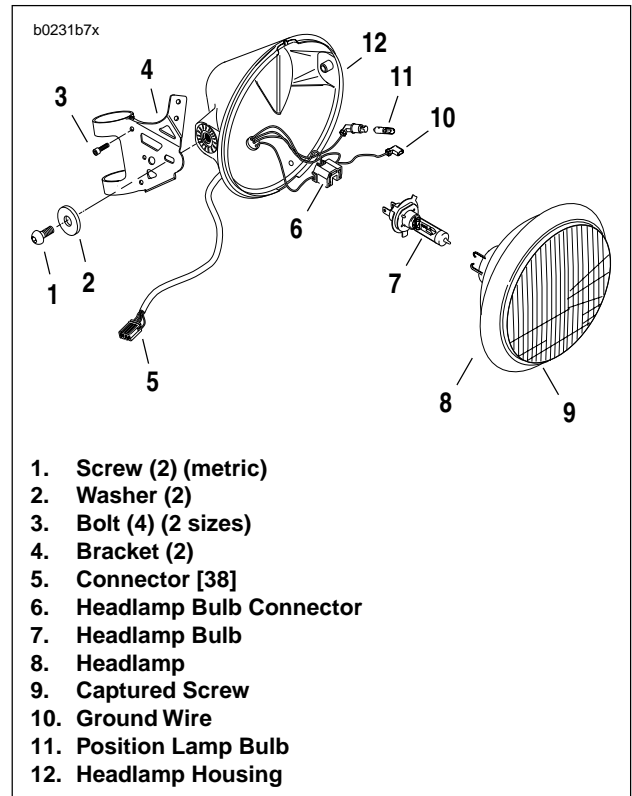
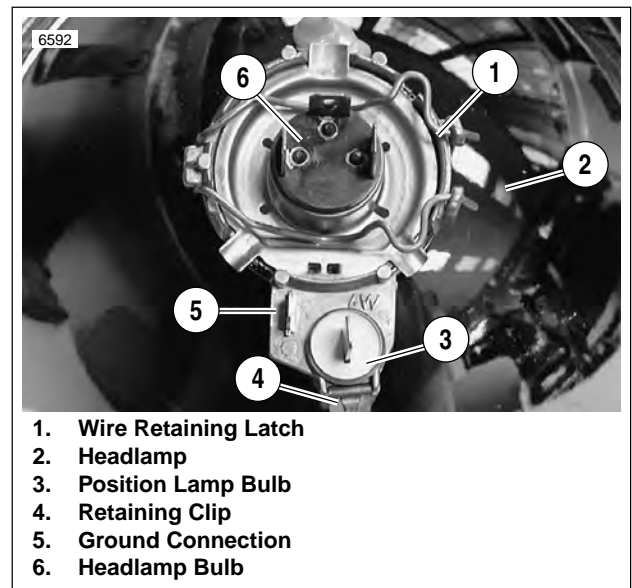

Figure 7-37. Headlamp Assembly
Figure 7-38. Headlamp Bulbs
1. See Figure 7-37. Loosen screw (9) at bottom of headlamp.
2. Pry headlamp (8) from headlamp housing (12).
3. See Figure 7-38. Press retaining clip (4) and remove position lamp bulb (3) from headlamp. Twist bulb to remove from harness.
4. See Figure 7-37. Remove screw (1) (metric) and washer (2) on each side.
- b. Remove four bolts (3) from weldnuts.
- c. Remove front forks and headlamp brackets (4). See 2.16 FRONT FORK.
1. See Figure 7-38. Install headlamp bulb (6).
- b. Close the wire retaining latch (1).
2. Insert position lamp bulb (3).
3. Connect ground wire (5).
4. See Figure 7-37. Place headlamp assembly in housing (12). Tighten screw (9).
- b. See Figure 7-37. Install four bolts (3).
3. See Figure 7-37. Install headlamp housing using two screws (1) (metric) and washers (2). Tighten screws to 6-8 ft-lbs (8-11 Nm).